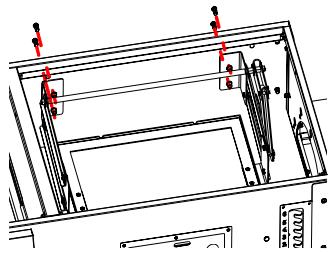

Fig. 16A
Refer to Fig. 16A. Using (4) M6X15 bolts to fix the Charcoal Tray Lifting System.